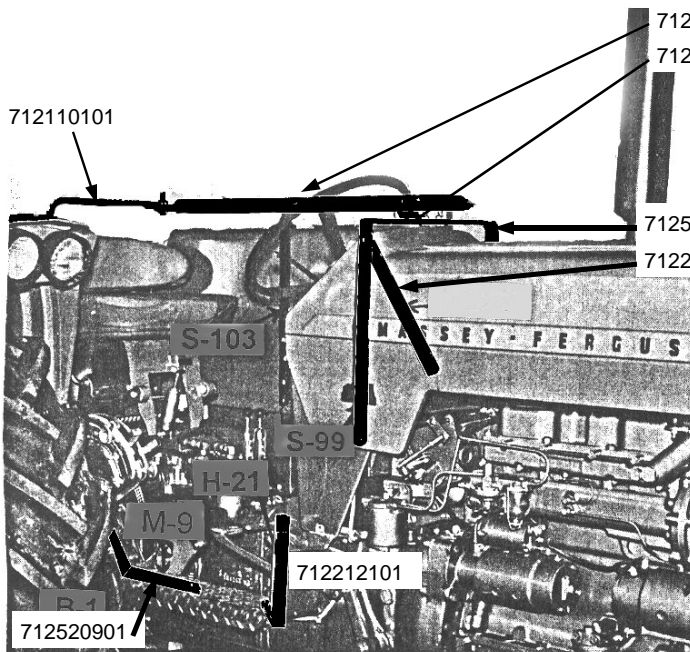

Figure 1
1. Attach # 712212101 Pedal Guard to the right foot rest using a 3/8x1 1/2" hex bolt and nut. See Figure 1
2. Attach # 712570001 Mount Bracket to the # 712569901 Saddle using 5/16x3/4 hex bolts and nuts. Attach the Saddle and Mount Bracket assembly to existing holes on the tractor using 1/4x1" hex bolts. Attach # 712234501 Saddle Braces to existing holes on tractor and to Saddle using 1/4x1" hex bolts and nuts. See Figure 1 and 2
3. Place a 3/8x1 1/2" hex bolt in the # 712520901 Side Arm Bracket. Attach the Side Arm Bracket to the right foot rest using the outside rear hole on the foot rest using a 5/16x1" Hex bolt and nut. See Figure 1
5. Place the Motor Cover over the tractor. Attach the Yoke to the Mount bracket using 1/4x3/4" hex bolts and nuts. Place the bolt heads to the front and the nuts to the rear of the assembly. Attach the Side Arm to the Side Arm Bracket using the previously inserted 3/8x1 1/2" hex bolt and nut. See Figure 1 & 2
6. Insert # 712560201 Door Post into the wide hem on the left side of the Motor Cover. Attach the top of the door post to the Yoke using a 1/4x1" hex bolt and wing nut. Place the bolt head to the rear and the nut to the front of the assembly. Attach the bottom of the Door Post to the left foot rest using a 3/8x1 1/2" hex bolt and nut. See Figure 1
9. Attach # 712560801 Door Latch to left fender using 1/2x1 1/4" hex bolts and nuts. On row crop models and when fender is in high position use second and fourth holes from bottom of Door Latch. On Utility models and when fender is in low position use first and third holes from bottom of Door Latch. See Figure 1